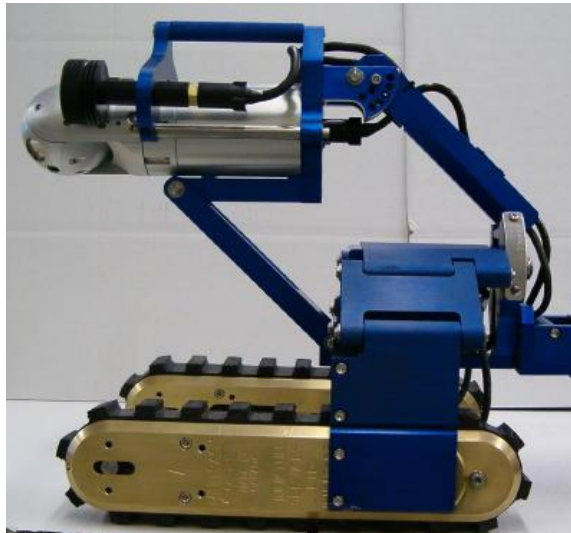

FIGURE 5: PREFERRED RAISE POSITION FOR CAMERA INSTALLATION
1. Adjust the Camera Raise Mechanism to the position shown in Figure 5. This will allow access to the camera mounting screws.